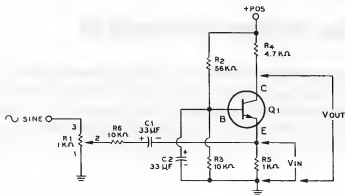

Figure 3-77
16. Remove the negative lead of the $33\ \mu\text{F}$ capacitor (C_1) from the base of Q_1 and connect it to the emitter of Q_1 . Connect the vertical input of your oscilloscope to the collector of Q_1 . Next take the spare $33\ \mu\text{F}$ capacitor and connect the positive lead to the base of Q_1 and the negative lead to ground. Your final circuit should be as shown in Figure 3-77. You may recognize this as a common-base amplifier since the input is to the emitter and output is from the collector.